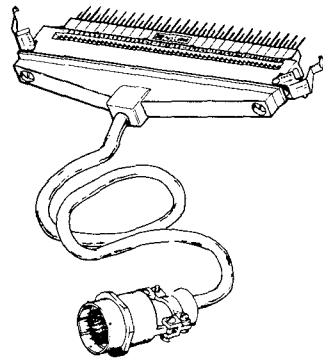

Fig. 150—4048SAB-1 Probe.
23.07 4048SAB-1 Super Mini 25 Pair Probe with Connector — Designed for testing Super Mini Modules with a test set having a bendix connector. See Figure 150.